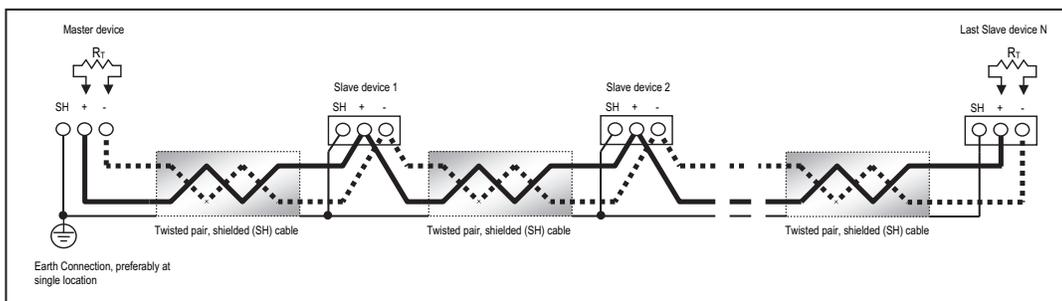

Figure 5.4: RS485 Daisy Chain Connection
- Connect shield to RS485 Master and individual devices as shown in Figure 5.4. You may also connect the shield to earth-ground at one point.
Figure 5.4 shows a representation of an RS485 Daisy Chain connection. Refer to Section 5.5.1 for details on RS485 connection for the Unicom 2500.